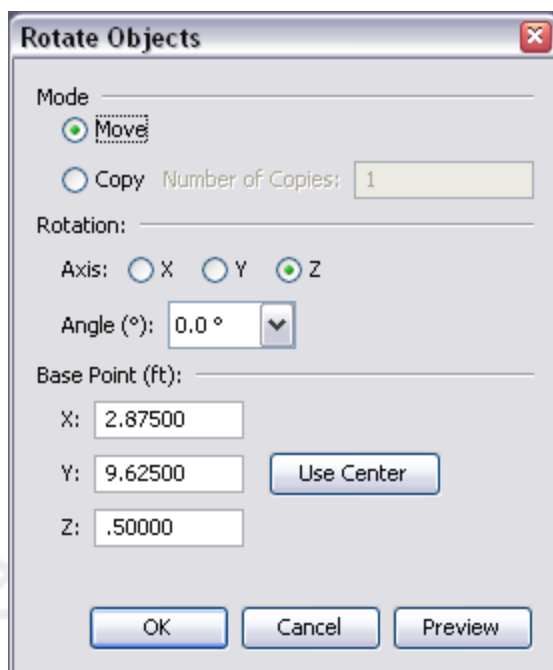

Figure 117. The rotate dialog being used to rotate an object
3. This will show the Rotate dialog as in Figure 117.